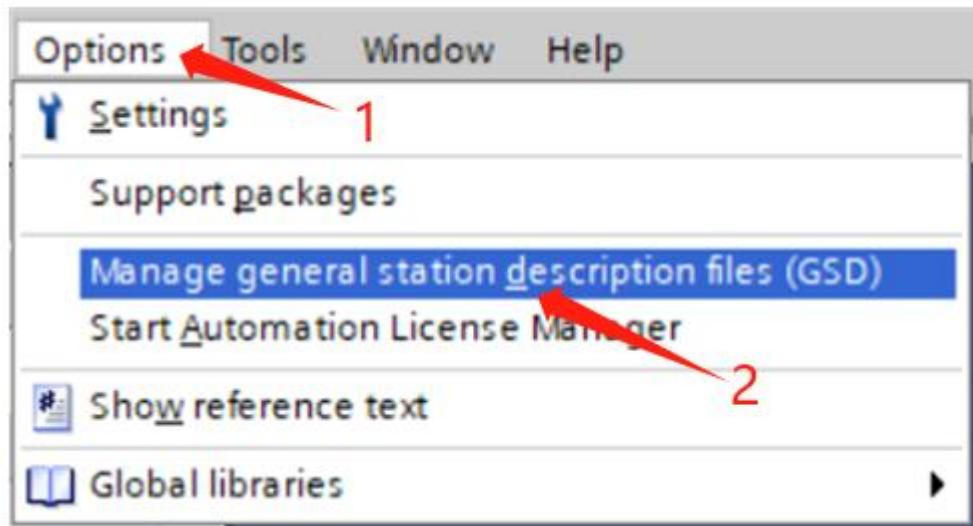

Figure 4-1-1-2 Installing the GSD file
3. Install the GSD file, open TIA Portal V17, and select Options from the menu bar. Support Device Description File (GSD), as shown in Figure 4-1-1-2: